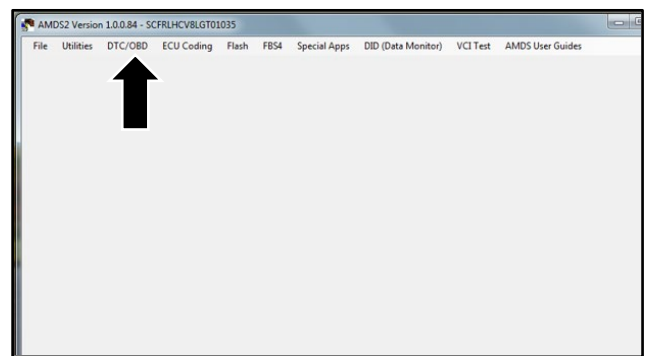

Figure 11
17. Select "DTC/OBD" (refer to Figure 11).